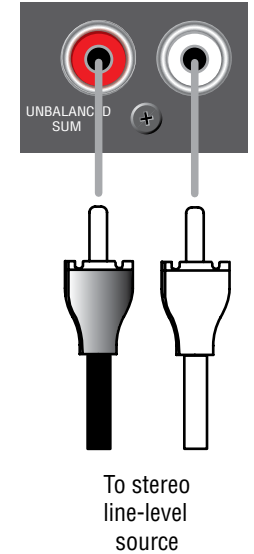

Figure 2.4 Dual RCA Input Connectors
• **Dual RCA Input Connector (other channels):** For stereo music signals, unbalanced, summed together, two connectors per input (Figure 2.4).